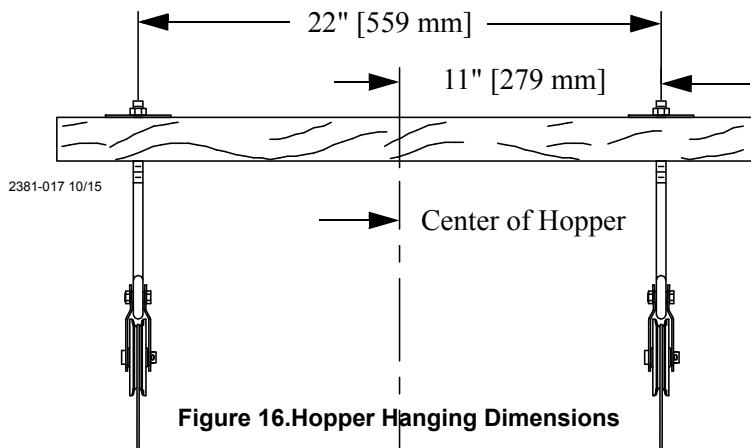

Figure 16.Hopper Hanging Dimensions
8. Install two pulleys to either a 2" x 8" [50x200 mm] board that will span at least 3 rafters or a 3/8" [9.5 mm] thick steel plate welded to two pieces of angle iron that are long enough to span at least 2 rafters. Install the pulleys directly above the feeder line where the hopper is to be located. The pulleys should be spaced 22" [559mm] apart (11" [279 mm] from the center of the hopper in both directions), see **figure 16**.